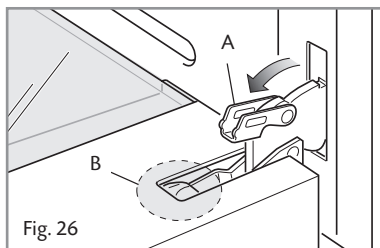
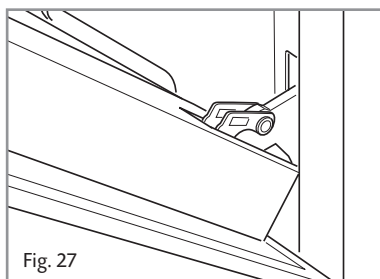

Fig. 26
Fig. 27
- Fully open the lever "A" on the left and right hinges (Fig 26).
- Gently close the door (Fig. 27) until the left and right hinges are hooked to part "B" of the door (Fig. 26).
1. Make sure the door is locked open (see fig. 27).